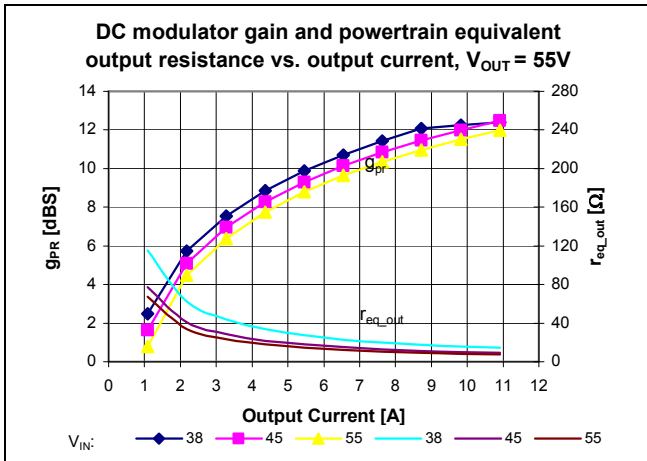

Figure 17 – Powertrain characteristics vs.  $I_{OUT}$ ; Resistive load,  $V_{OUT}=55V$ , various  $V_{IN}$
The powertrain small signal (plant) response consists of a single pole determined by the load resistance, the powertrain equivalent output resistance, and the total output capacitance (internal and external to the module). Both the modulator gain and the equivalent output resistance vary as a function of line, load and output voltage, as shown in Figures 17, 18 and 19. As the load increases, the powertrain pole moves to higher frequency. As a result, the closed loop crossover frequency will be the highest at full load and lowest at
- Modulator Gain  $g_{PR}$ : See Figures 17, 18, 19
- Powertrain equivalent resistance  $r_{EQ}$ : See Figures 17, 18, 19